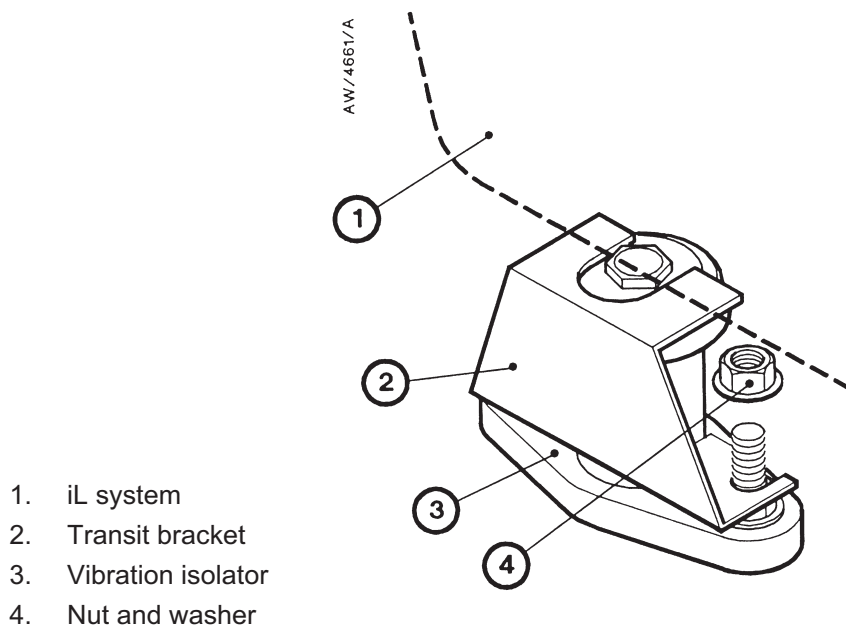

Figure 3-5 - Remove the vibration isolator transit brackets
2. Refer to Figure 3-5. Remove the nuts and washers (4) which secure the four transit brackets (2) to the vibration isolators (3), then remove the transit brackets.